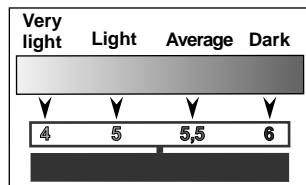

Fig. 12
To obtain the “average” temperature for your toast, set the (E) handle onto 5,6. For darker toast, set knob a-half-setting higher (6), while if lighter toast is preferred, set the knob a-half-setting lower (5) (fig. 12).